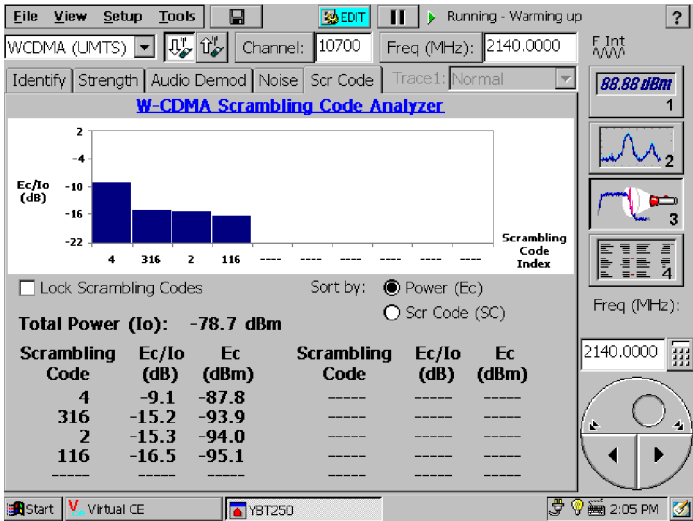

Figure 3-26: Scrambling codes sorted by descending power (Ec)
- **Power (E_c)** to sort by descending E_c level. (See Figure 3-26.)
- **Scrambling Code (SC)** to sort by ascending Scr Code index.